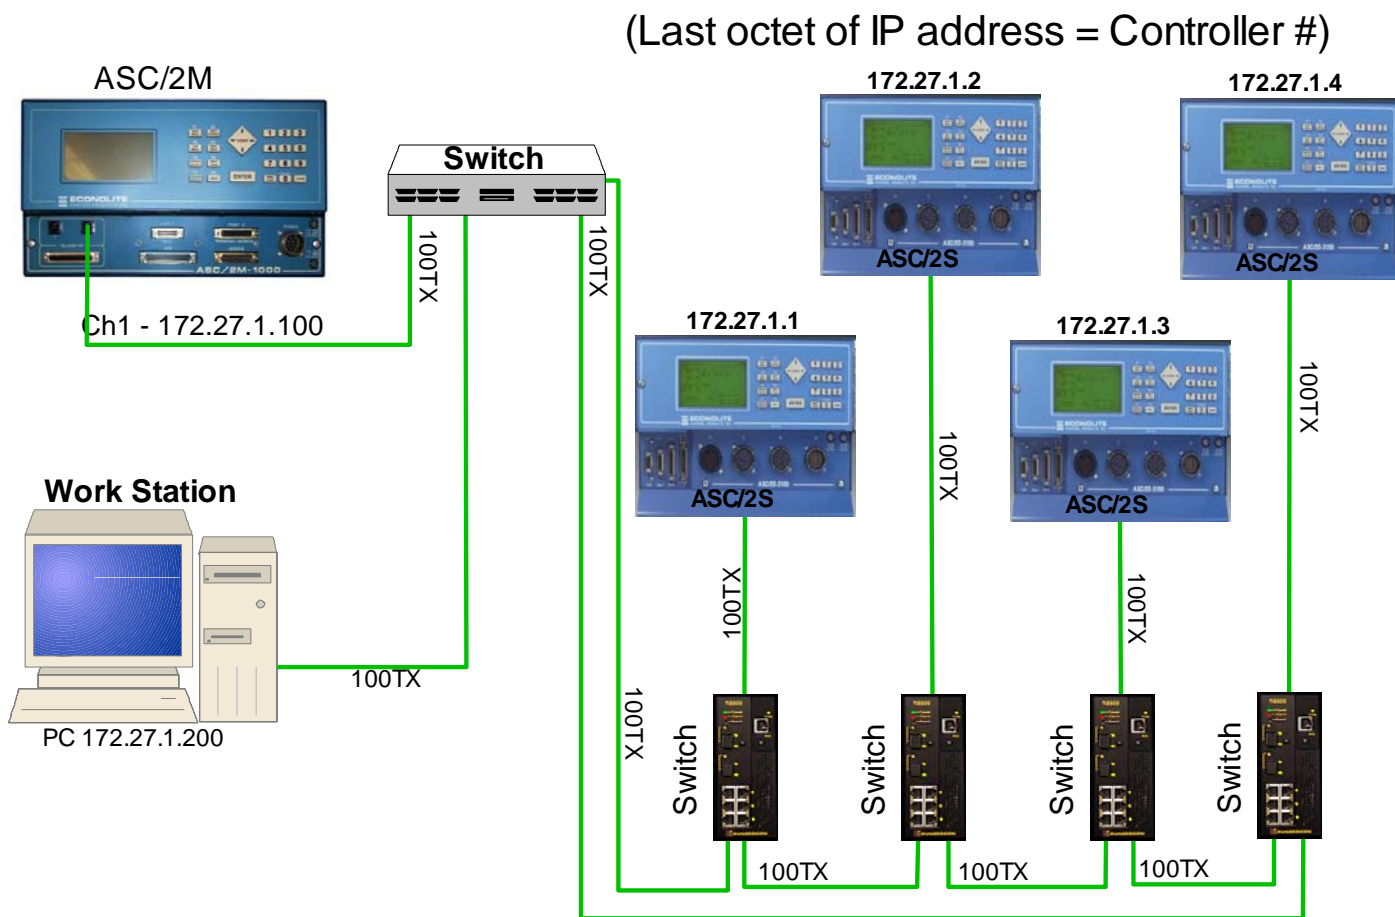

Figure 1. ASC/2M-1000 to ASC/2S Ethernet Connection
Figure 1 shows the basic design discussed in this document. For more information, contact Econolite Technical Support.
Most of the hardware listed here is shown in Figure 1. However, some of the hardware is internal to the devices shown and thus is not in view.
- If you have not connected your hardware yet, please do that now per Figure 1 on Page 1.